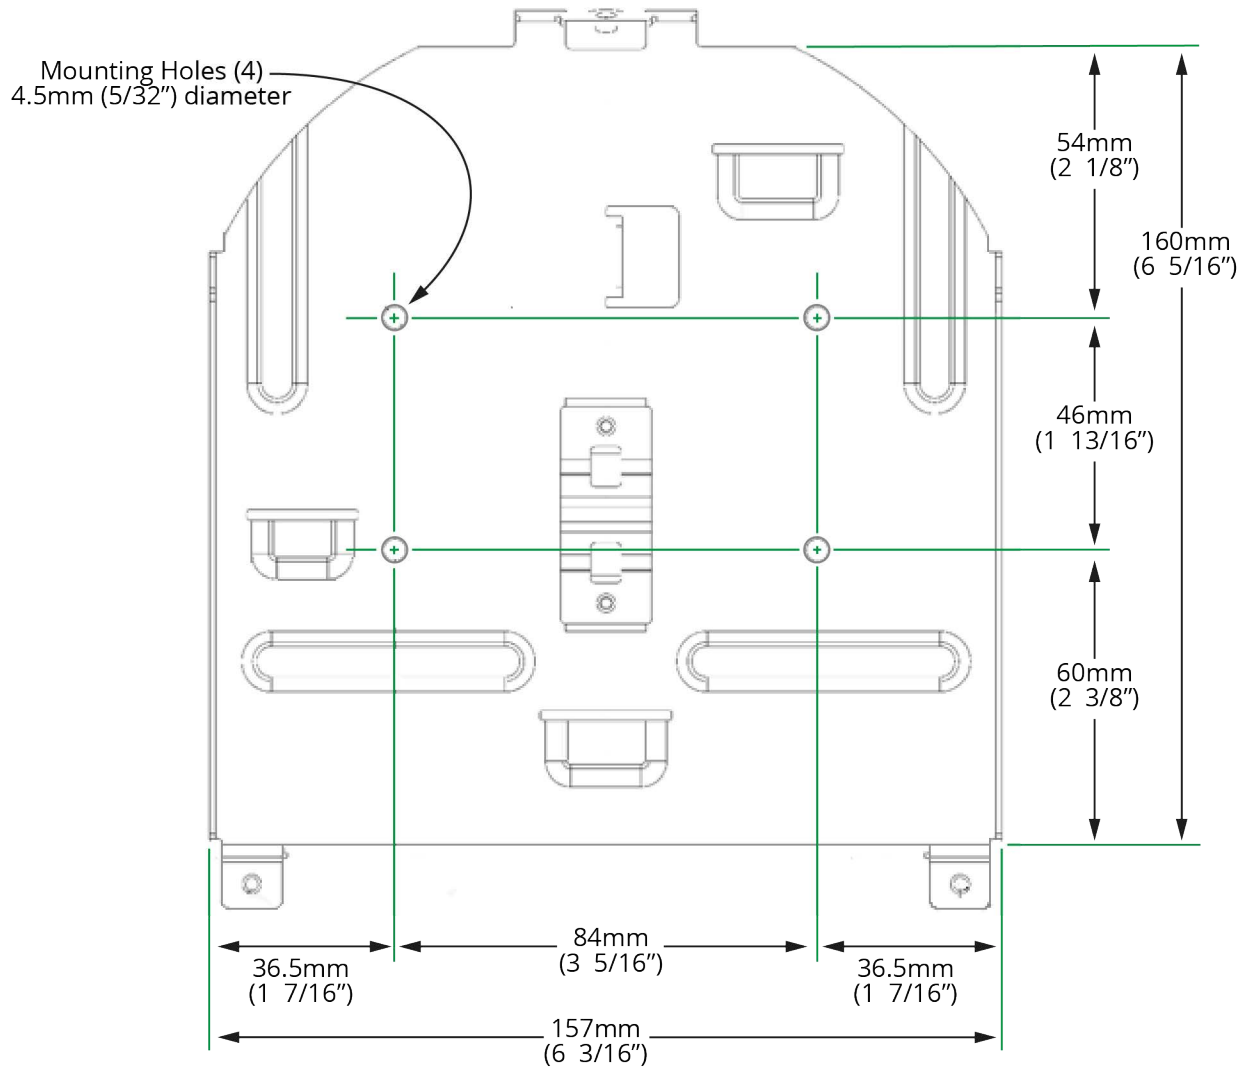

Figure 16 - Metal Plate B, showing Mounting Holes
3. Mount **Metal Plate B** on the ceiling, using suitable fasteners (Figure 16).